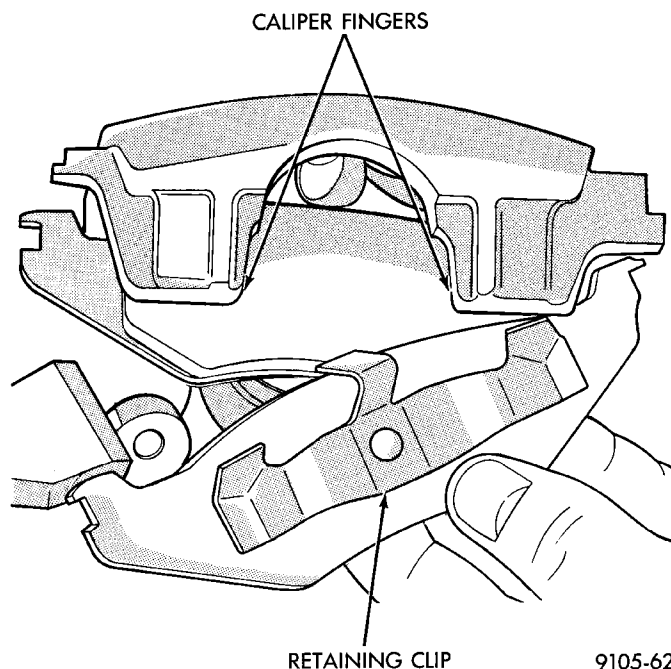

Fig. 76 Outboard Brake Shoe
(7) Remove outboard brake pad from caliper by prying brake pad retaining clip over raised area on caliper. Then slide brake pad down and off the caliper (Fig. 76).
(6) Slide new outboard brake pad assembly onto the caliper assembly (Fig. 76). Be sure retaining clip is squarely seated in the depressed areas on the caliper.